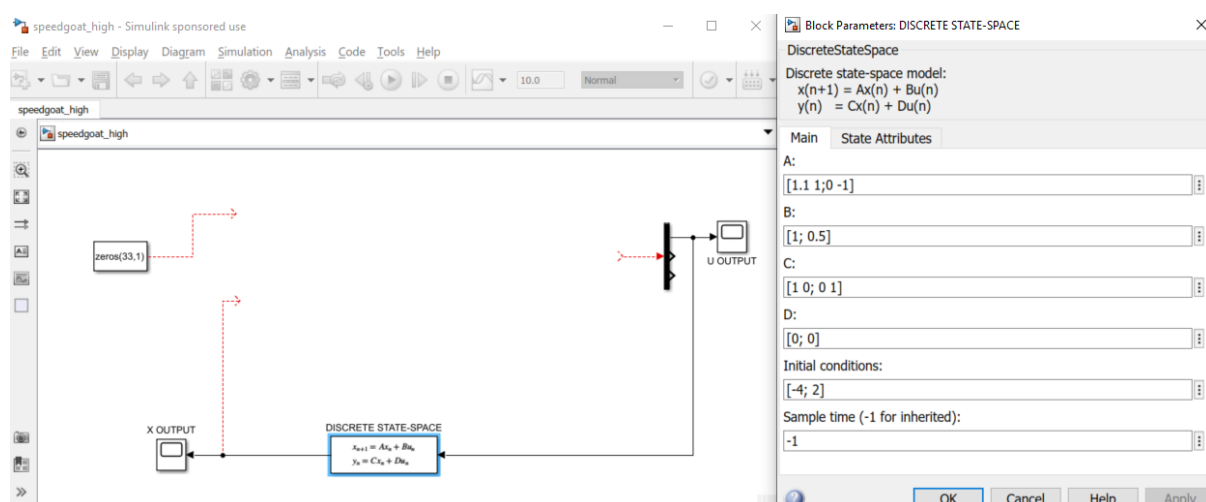

Figure 13.62: Populate the Simulink model.
3. (Figure 13.62) Populate the Simulink model with the system you want to control.